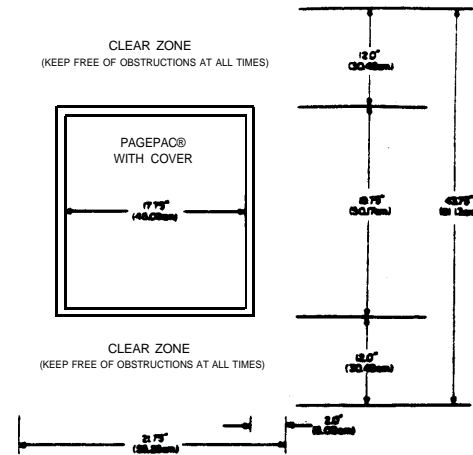

Fig. 17—Clearances for Wall Mounting
- (1) For wall mounting, select a location which allows at least 12 inches (30.5 cm) of wall space at the top and bottom of the cabinet and 2" at each side (Fig. 17) to allow adequate air flow through the unit and prevent possible amplifier overheating and failure.
- (2) Mount a plywood backboard, if required, on the wall in the selected location.
- (3) For rack mounting, select a position in the frame with at least 28" of vertical rack space available so as to allow 4" above and below the unit for airflow.
- (4) Make sure that a 115V ac power outlet is located within 6 feet of the selected location. The outlet should not be controlled by a switch.